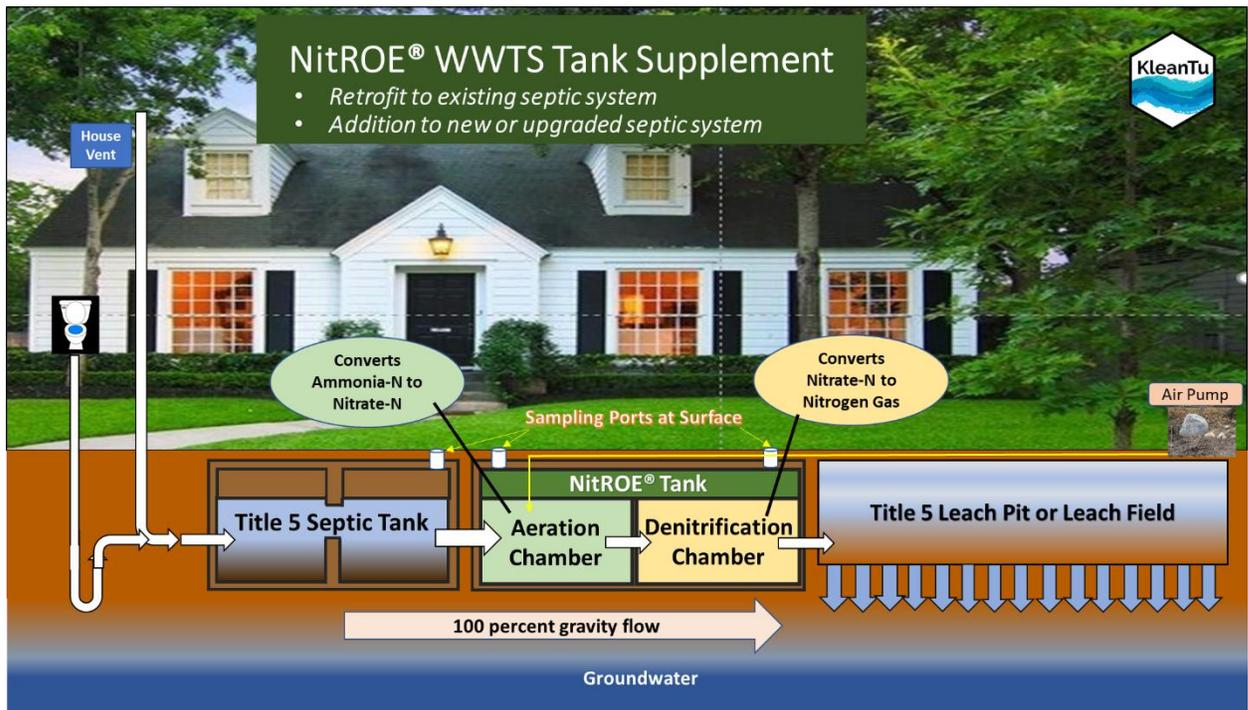

Figure 1. NitROE® WWTS Concept
As illustrated in Figure 1, a NitROE® WWTS tank is placed in the wastewater flow path between a Title 5 septic tank and a Title 5 leach pit or field. Here, the NitROE® WWTS tank serves as a supplemental tank component to a compliant Massachusetts Title 5 septic system for the main purpose of enhanced total nitrogen (N) removal, significantly beyond that achieved by a Title 5 septic system alone.
Specific to the NitROE® WWTS tank itself, Figure 1 illustrates that it has two primary chambers. The first chamber is aerated, via an external air pump and airline header/hose arrangement, to achieve both organic carbon reduction along with the biological conversion of ammonia-N to nitrate-N.
- The NitROE® WWTS tank is a standard concrete septic tank that is retrofitted with internal recycled plastic wood partitions and aeration piping to provide both the aeration and denitrification chambers per previously shown Figure 1.